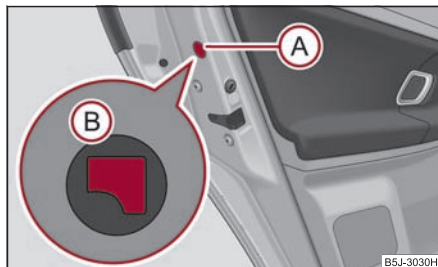

Fig. 38 Emergency locking of the door
- Remove the panel **(A)** ⇒ fig. 38.